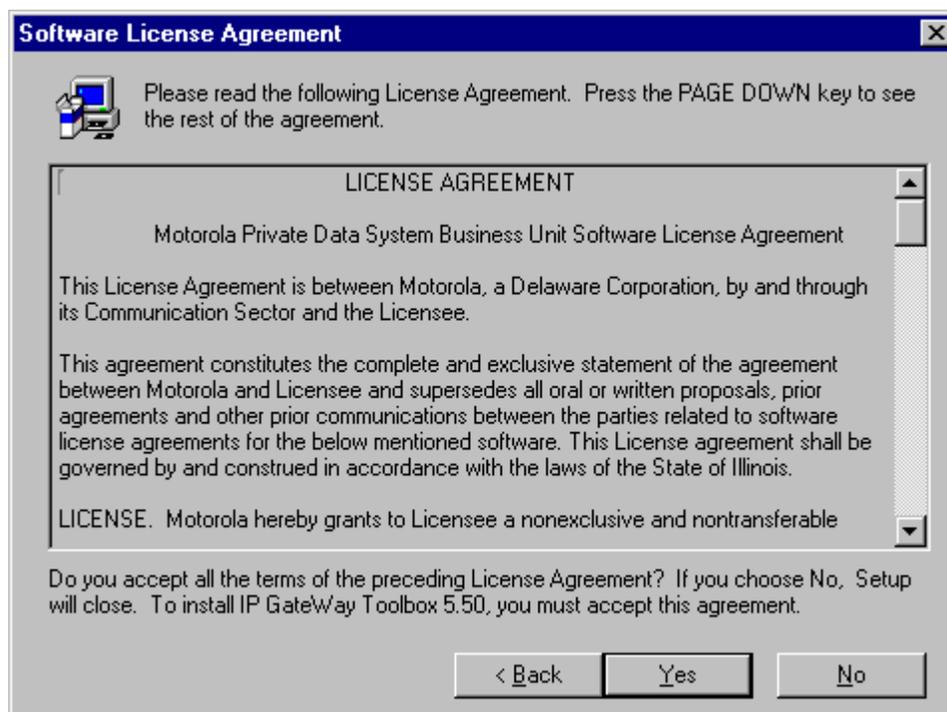

Figure 4-3: Software License Agreement screen
5. The Install Wizard displays the Software License Agreement (see Figure 4-3). Please read the text in this screen carefully, then click **YES** if you want to accept the license agreement and continue with the installation.